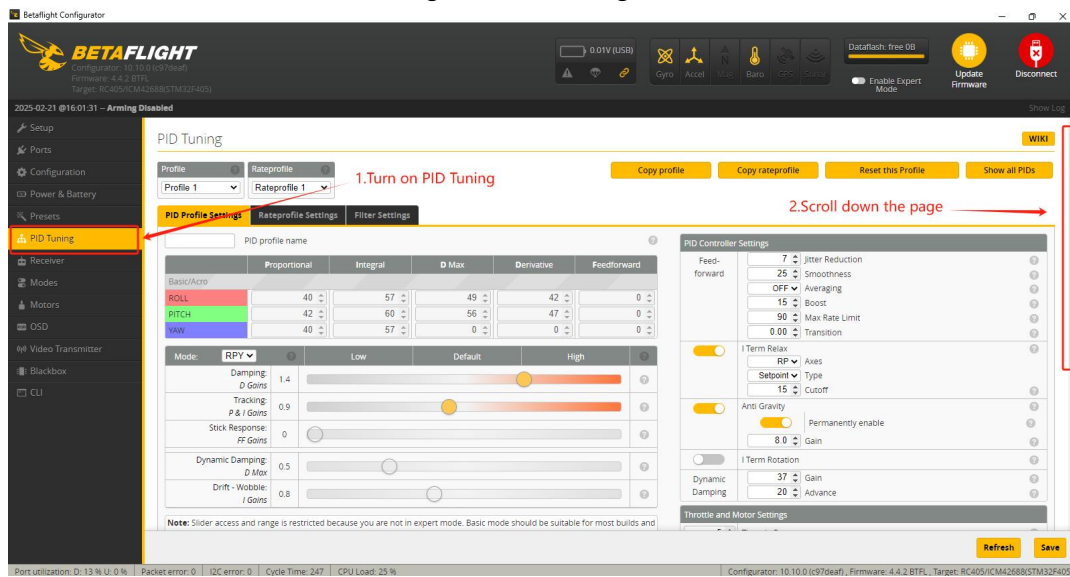
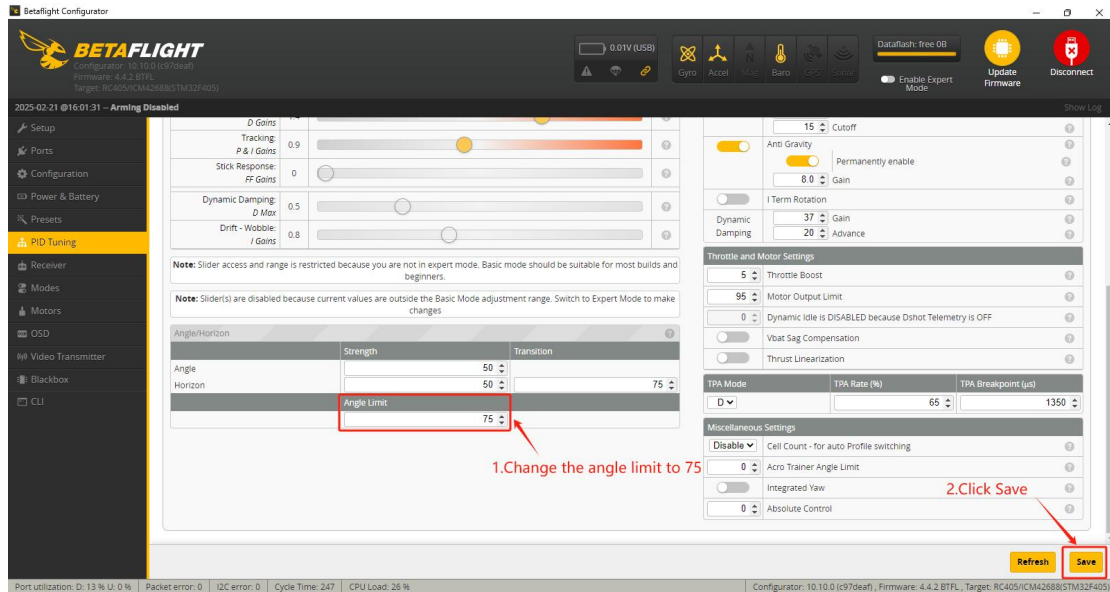

Fig 7.1.3 PID Control Interface Settings
Fig 7.1.4 PID Control Interface Settings
Step 3: Click on the PID Tuning option on the left side of the ground station. Scroll down the page to the Self-stabilization/Semi-self-stabilization option. Set the angle limit in this option to 75, and then click "Save", as shown in Figure 7.1.3 and Figure 7.1.4.